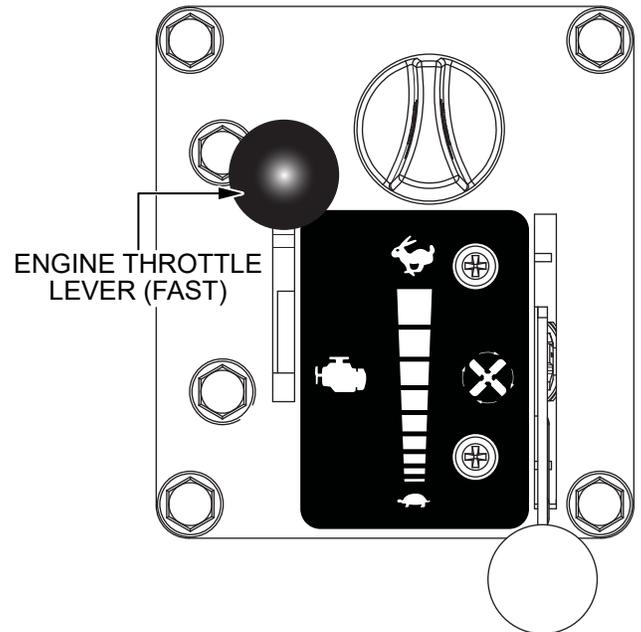

Figure 23. Engine Throttle Lever (Fast)
- Place the **engine throttle lever** in the **FAST** (rabbit) position. See Figure 23.